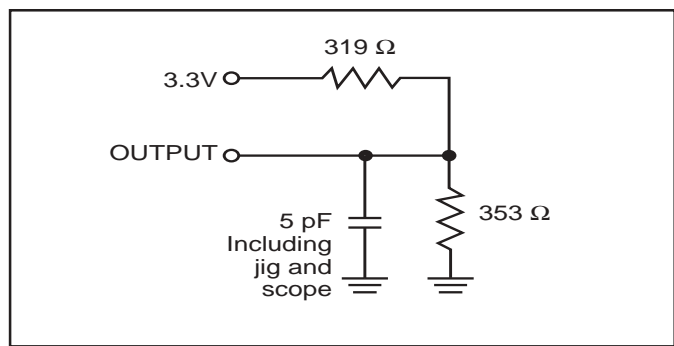

Figure 2.
2. Tested with the load in Figure 2. Transition is measured ± 500 mV from steady-state voltage. Not 100% tested.
3. Tested with the load in Figure 2. Transition is measured ± 500 mV from steady-state voltage. Not 100% tested.